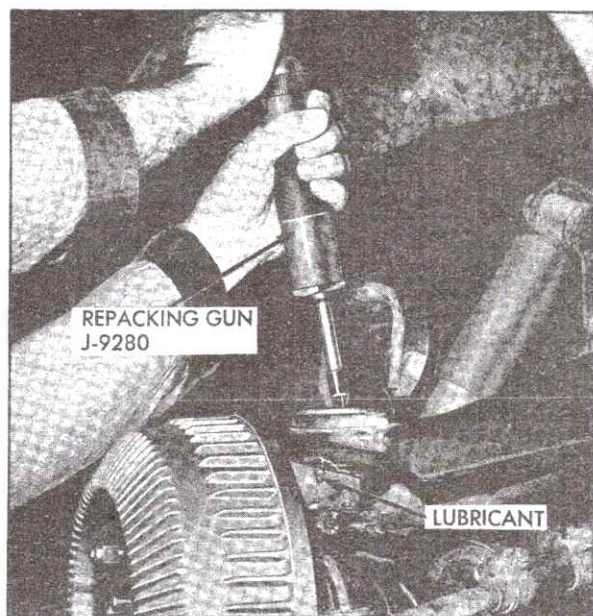

Fig. 3-37 Repacking Upper Spherical Joint (693)
5. Lubricate the ball joint fitting until grease escapes between seal and steering knuckle, Fig. 3-37.